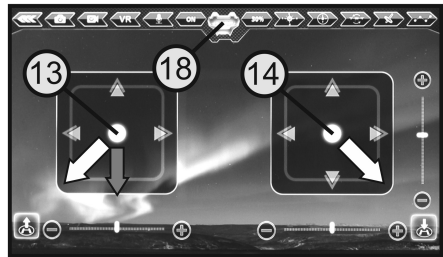

Figure 26
To start the rotors, move the left virtual joystick (13) to the lower left and the right virtual joystick (14) to the lower right (see light arrows in Figure 26). Hold both joysticks in this position until the rotors start. As the rotors rotate, return the joysticks to the middle position.
To stop the rotors, move the left joystick (13) to the lower position and hold it in that position until the rotors stop (see dark arrow in Figure 26). Alternatively, press the button for the motor emergency stop function (18).